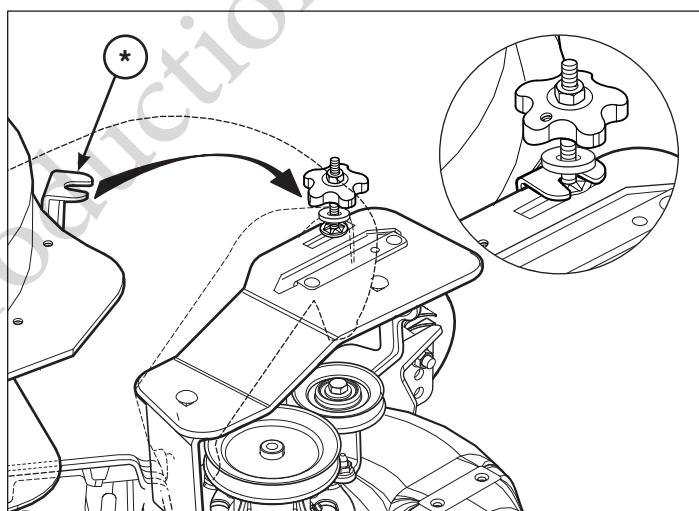

Figure 20
7. Insert slot of turbo assembly mounting latch (*, Figure 20) firmly onto bolt and underneath knob and washer. Tighten knob.